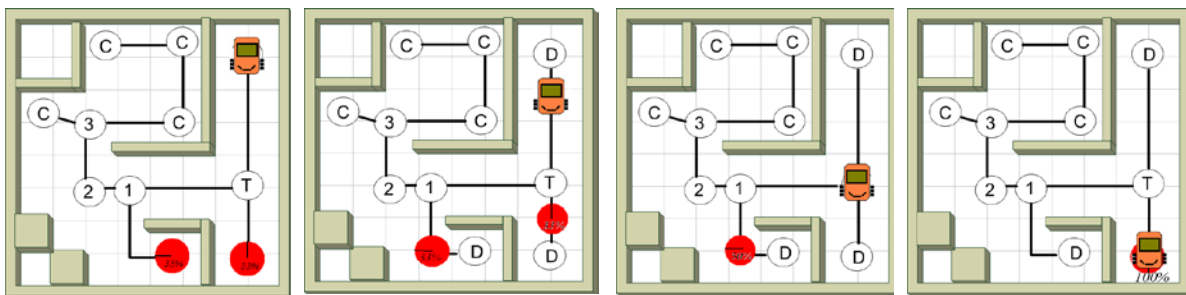

Figure 6: PMDP Localization
- Once the robot is placed in the world, the robot should then use some motion algorithm such as random wander, follow center, or wall following to explore the world and identify gateways. It should keep track of the gateways passed and the order in which they were passed. Although there will be some odometry error, it would also aid the localization algorithm to keep track of odometry such as distance traveled and turns. Within three to four iterations of this process, the robot should be able to use a probabilistic method such as the Partially Observable Markov Decision Process (PMDP) to localize itself. Figure 6 provides an example of this localization process with the proposed robot locations after each step marked on the map.